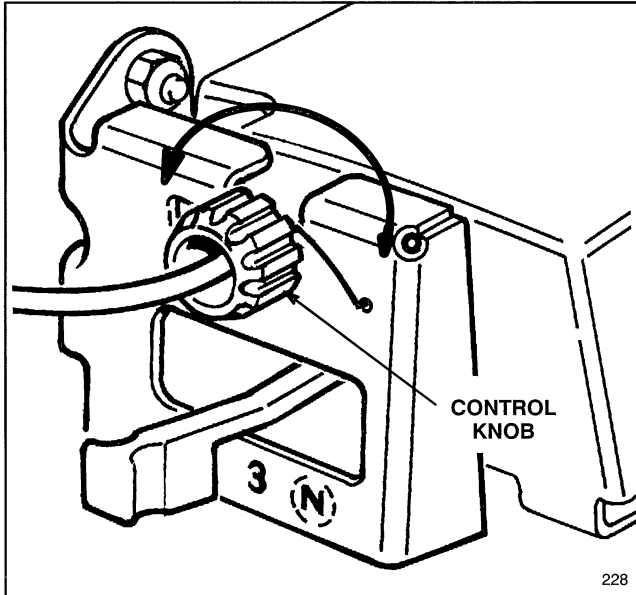

Figure 23
2. **ADJUSTMENT** (Fig. 23)—Rotate control knob clockwise 1/2 turn if mower does not self-propel. If mower creeps forward, rotate knob 1/2 turn counter-clockwise to loosen belt.